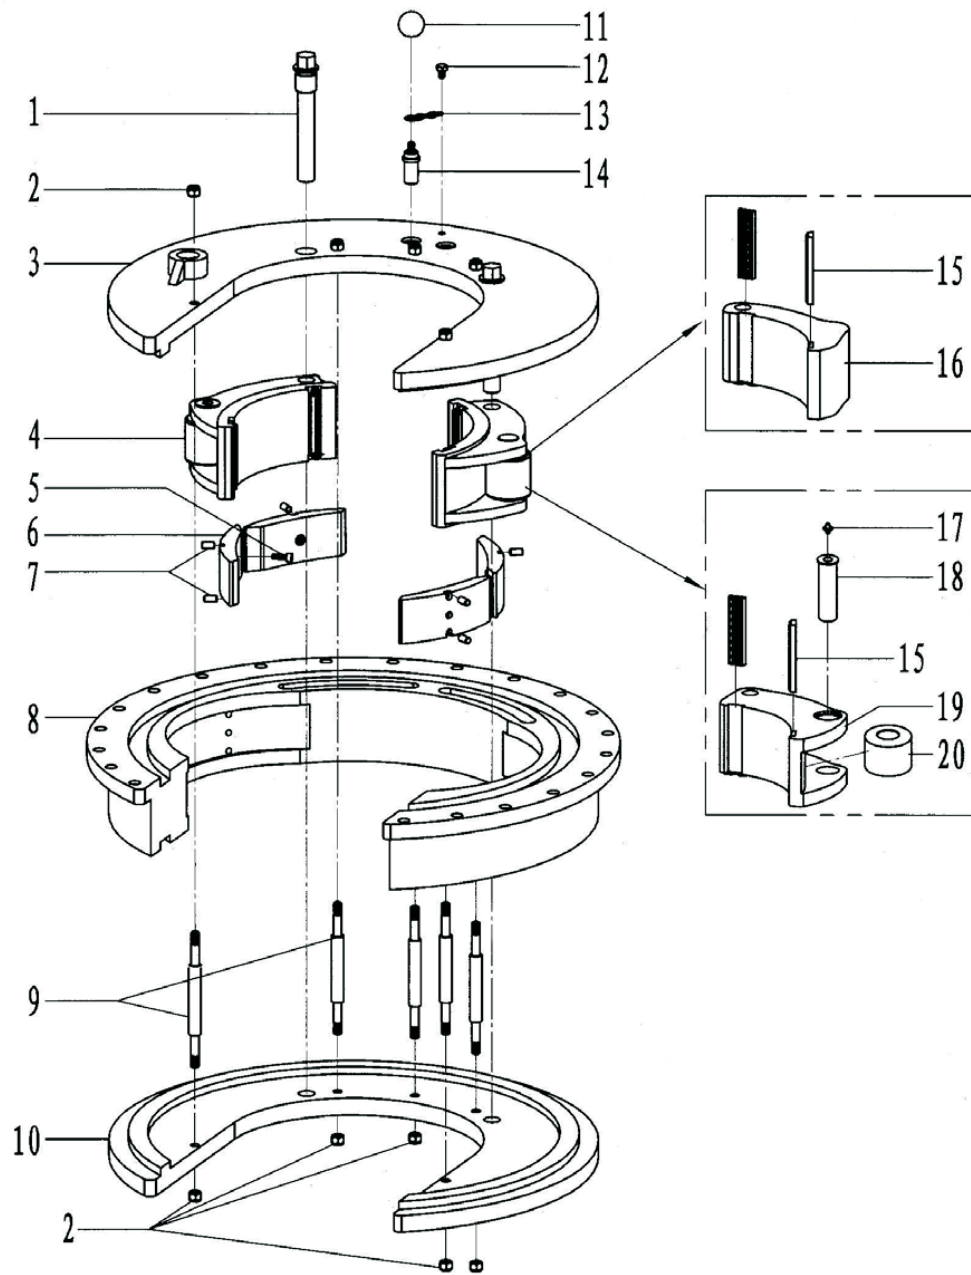

Fig.23
7.20 Backup tong head assembly(Fig.23,Table23)